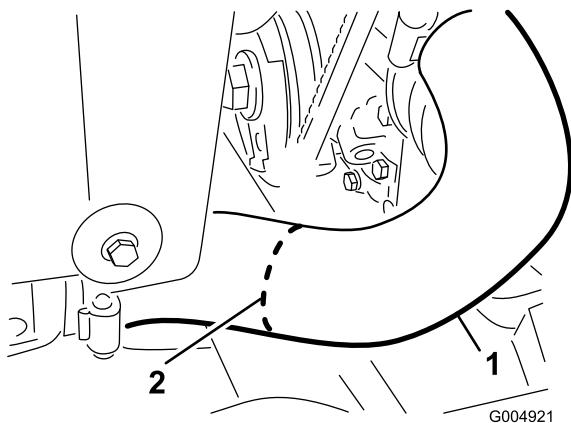

Figure 17
13. Cut the lower radiator hose in half on the white line as shown in Figure 17.